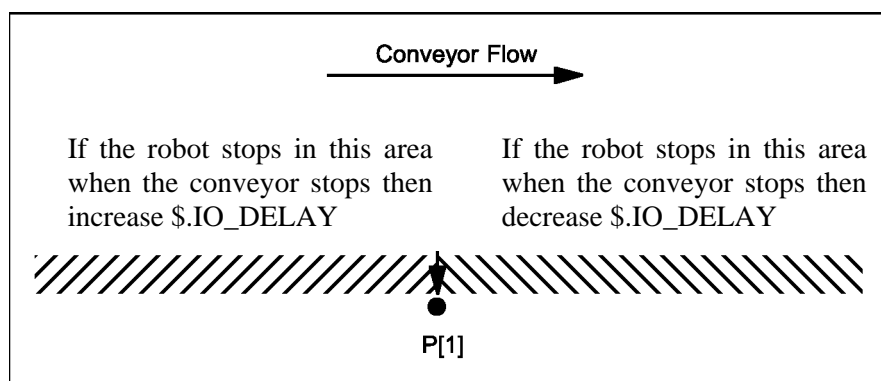

Fig. 5.4.1 Modifying \$LNCFG_GRP.\$IO_DELAY
4. Verify that the robot is lined up at the correct position (P [1]). If the robot is not lined up with P [1], then modify \$LNCFG_GRP.\$IO_DELAY as shown in Fig. 5.4.1 .